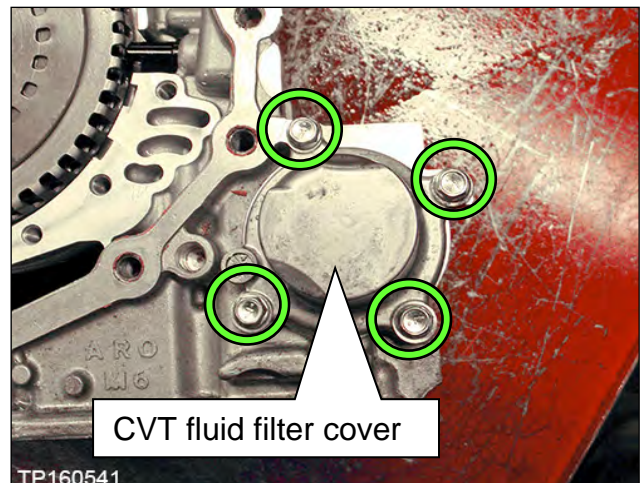

Figure 57
- a. Remove the four (4) bolts and then remove the CVT fluid filter cover (Figure 57).